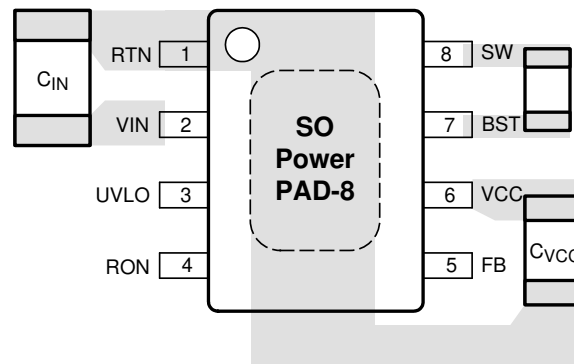

图 10-1. Placement of Bypass Capacitors
- $C_{IN}$ : The loop consisting of input capacitor ( $C_{IN}$ ),  $V_{IN}$  pin, and RTN pin carries switching currents. Therefore, the input capacitor should be placed close to the IC, directly across  $V_{IN}$  and RTN pins and the connections to these two pins should be direct to minimize the loop area. In general it is not possible to accommodate all of input capacitance near the IC. A good practice is to use a 0.1- $\mu$ F or 0.47- $\mu$ F capacitor directly across the  $V_{IN}$  and RTN pins close to the IC, and the remaining bulk capacitor as close as possible (see 图 10-1).
- $C_{VCC}$  and  $C_{BST}$ : The  $V_{CC}$  and bootstrap (BST) bypass capacitors supply switching currents to the high and low side gate drivers. These two capacitors should also be placed as close to the IC as possible, and the connecting trace length and loop area should be minimized (see 图 10-1).